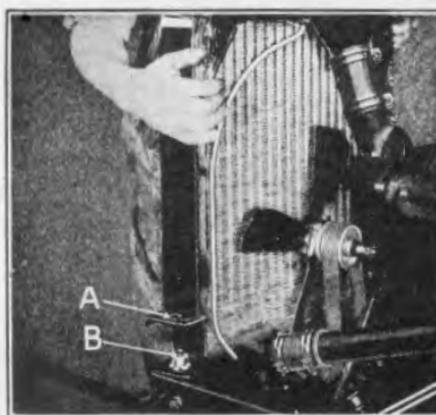

Fig. 103
- (b) Insert radiator support (See "A" Fig. 103) over studs and thimbles "B".